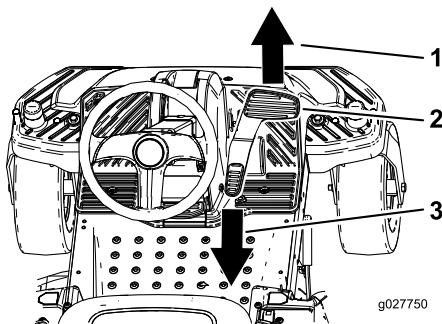

Figure 14
3. Place your foot onto the traction-control pedal and slowly press the top of the pedal to go forward or press on the bottom of the pedal to move backward (Figure 14).